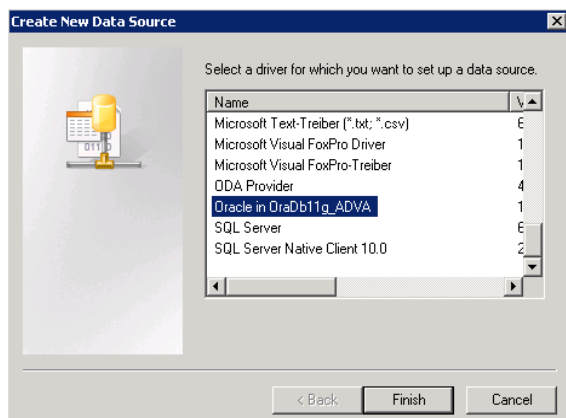

Figure 51. Create New Data Source Dialog Box
- 3. Click **Add** to display the Create New Data Source dialog box shown in Figure 51.